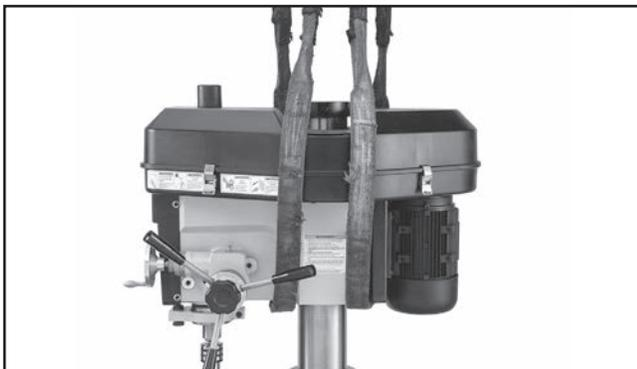

Figure 8. Lifting slings properly wrapped around headstock and positioned to avoid damage to belt cover while lifting.
2. Remove top portion of crate from the shipping pallet, place lifting slings around headstock (see **Figure 8**), and attach them securely to forklift (or other power lifting equipment).